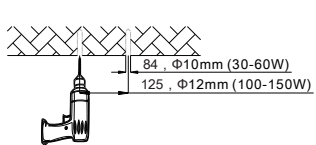

Figure 1
1. Make marks on the ceiling or walls, and then drill holes on the marks(Figure 1).